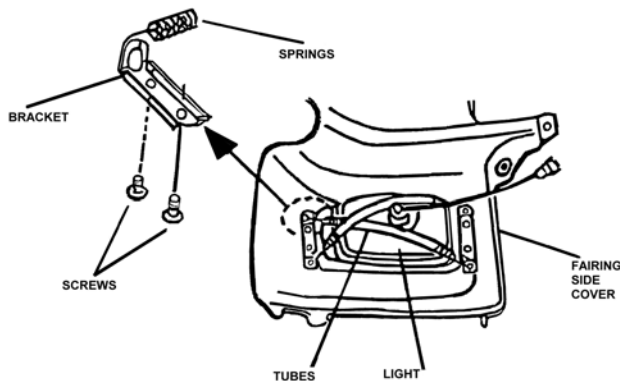

Figure 7
- Using a #2 Phillips screw driver, install the left/right brackets with the 4mm x 10mm truss head machine screws, Fig 7.
- Install the left/right lights into the fairing side covers by slipping the plastic tubes over the springs and hooking the springs onto the bracket ends in a cross over fashion. Fig 7.